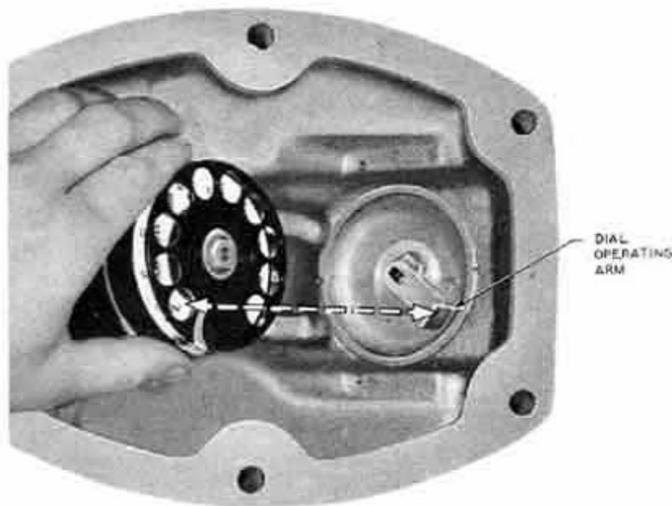

Fig. 3—Dial Assembly
2.03 The dial is operated by an external finger wheel and a threaded shaft extending through the housing (see Fig. 3).
4.06 The dial may be removed for maintenance from inside the set (see Fig. 3).